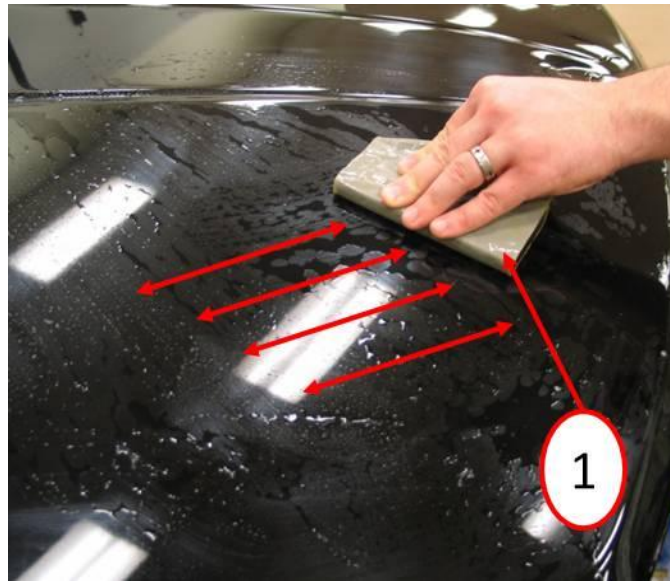

Fig. 6 Wet Sanding
- 8. Lightly wetsand the overspray with Meguiars unigrit 2500 wet sandpaper (or equivalent) with a Meguiars sanding pad (or equivalent) in a unidirectional pattern until the overspray has been removed or more than 0.2 mils of clearcoat has been removed (Fig. 6).